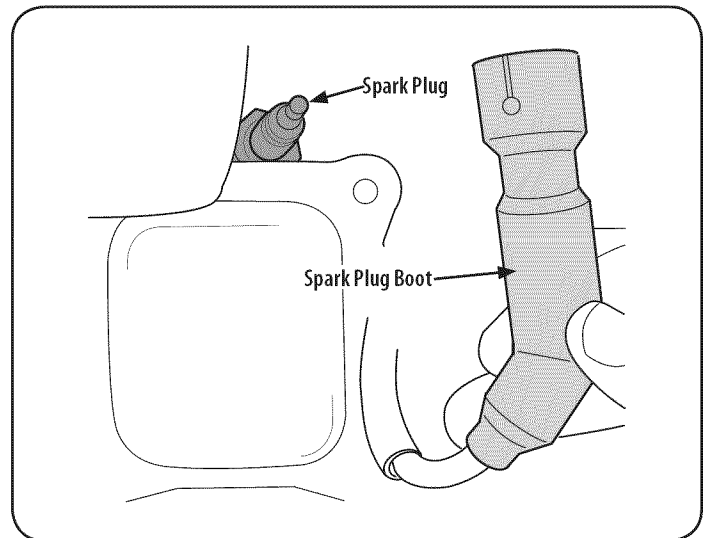

Figure 15
- Remove the spark plug boot and use a spark plug wrench to remove the plug, see Figure 15.